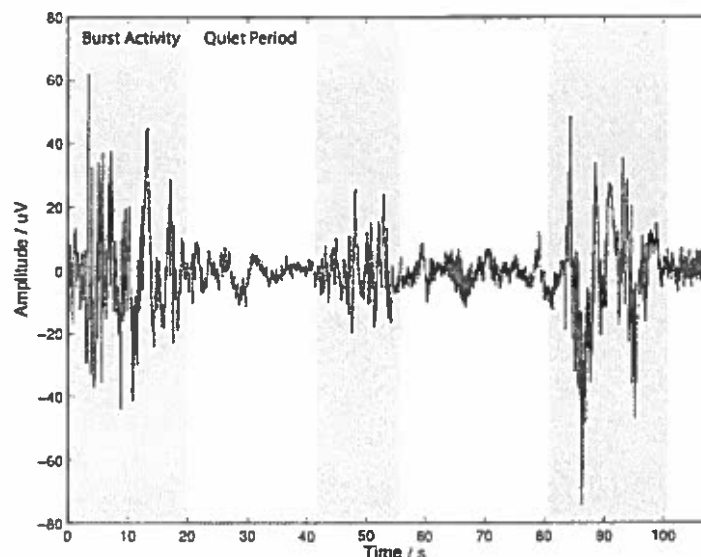

Figure 4.1 – Discontinuity data from a single channel neonatal EEG.
- The typical signals during normal sleep/wake cycling are show in Figure 4.1. The duration of the sleep-wake cycle gives some indication of the development of the brain and can detect abnormalities. A system is required that will detect the types of activity depicted in Figure 1(sleep-wake discharges). These burst-quiet periods range from 3-20 seconds. (*Note: you can assume the ECG and respiratory artifacts have already been removed*).